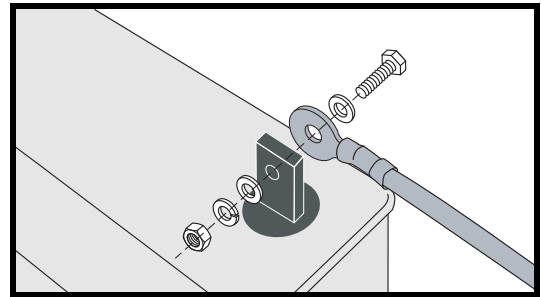

Figure 13B. Cable To Terminal Connection
4. Disconnect the battery cables from the battery terminals by sliding back the terminal boots and unscrewing the nut from the bolt. See figure 13B.